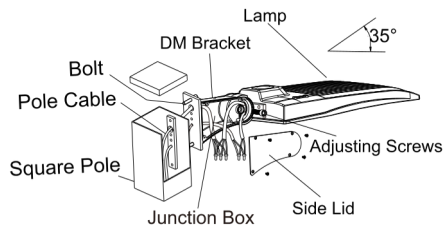

Figure 3
2.DIRECT MOUNTING (DM)
Step 1: Fix DM bracket to square pole with bolt, open the side lid of DM bracket, pull the wire into junction box, and connect the wire correctly. (Figure 3)
Notice: Adjustable angle is 0-35° (Figure 3).